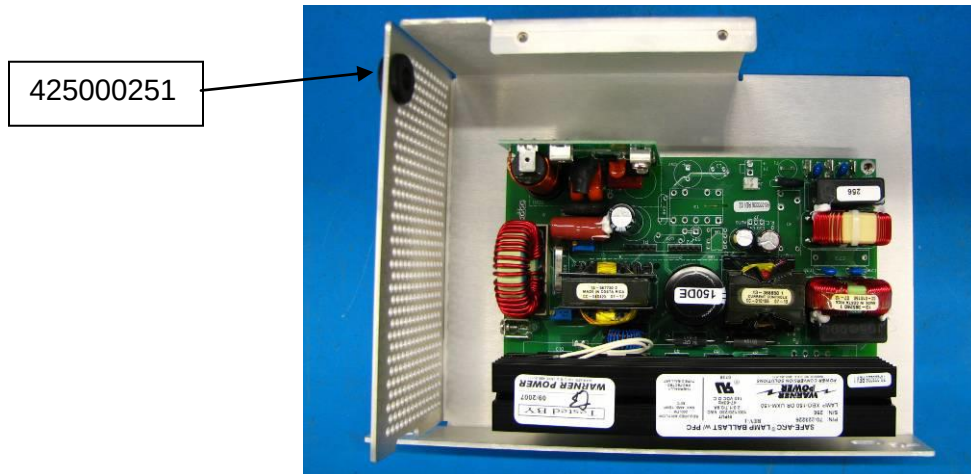

Figure 17
9.1 Assemble the grommet to the hole in the mounting bracket. (Figure 17)